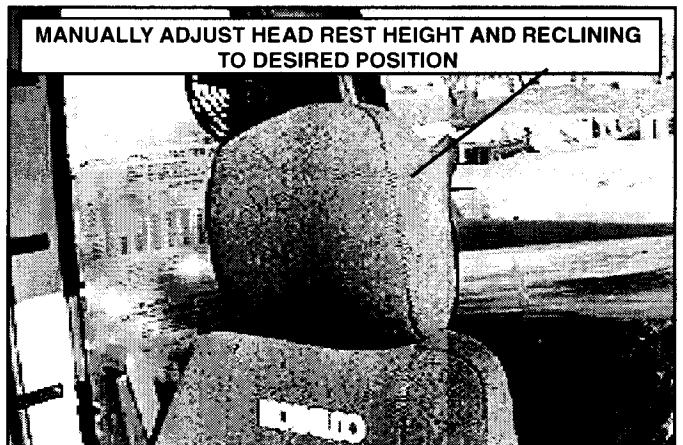

FIGURE 2.51
f. Head Rest Adjustment – FIGURE 2.51